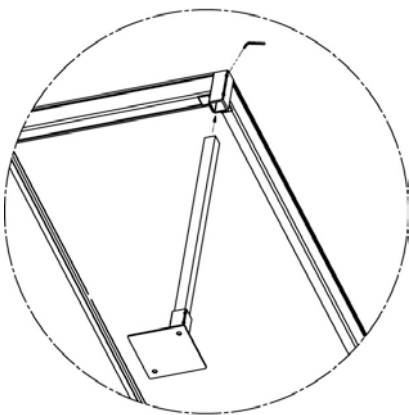
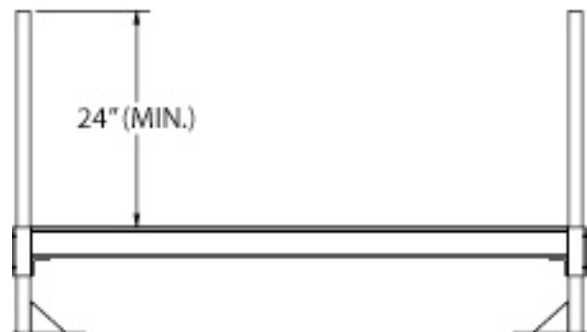

FIG. 1
FIG. 2
- 1.1.1 Insert support legs into corner pockets at corners of platform (FIG. 1). Position foot pads so that they do not protrude past perimeter of the platform. **Note:** The support legs are also used to support the guardrails and when installed, the support tubes must protrude at least 24" above the platform walking surface (FIG. 2).